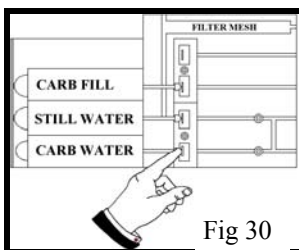

Fig 30
2. Disconnect the electrical power to the unit & open the carb water dispense valve manually until gas comes from the dispense nozzle. Fig 30 page 11.
3. Disconnect the electrical power to the unit & open the carb water dispense valve manually until gas comes from the dispense nozzle. Fig 30.